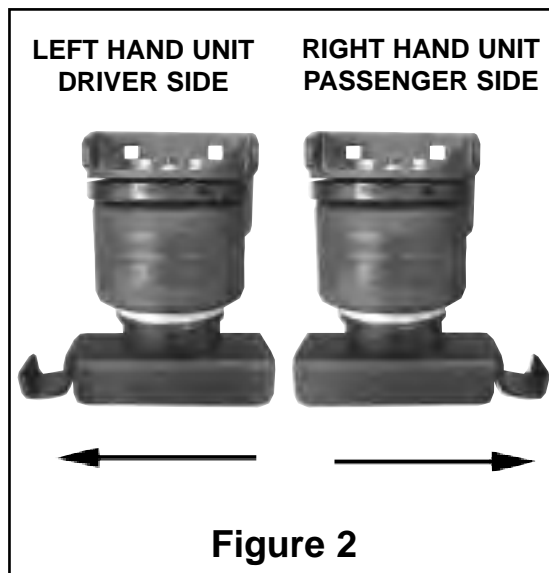

Figure 2
4. The lower brackets are marked left and right, left for the driver side and right for passenger side. The slots in the lower bracket must be offset outboard towards the tire. Position the hook of the lower bracket in relationship to the upper bracket as shown in Figure 2.
If the vehicle has a rough and harsh ride it may be due to either too much pressure or not enough (fig. 2). Try different pressures to determine the best ride comfort.